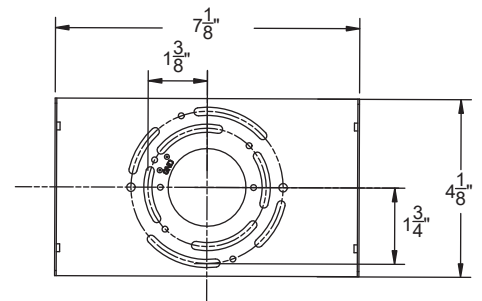

Fig. 4
3. Remove the mounting screw (B) and the silicone gasket (C) from the mounting plate.
4. The lamp can switch between three color temperatures (3000k-3500k-4000k), which can be adjusted to your preference with the switch in the canopy (Fig.4).